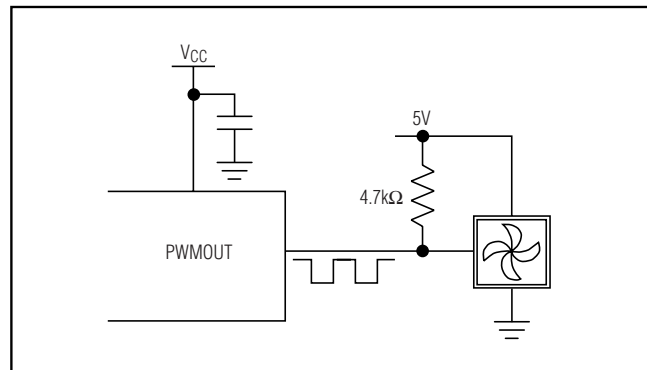

Figure 7. Controlling a PWM Input Fan with the MAX6641's PWM Output (Typically, the 35kHz PWM Frequency is Used)
- 3) PWMOUT directly drives the logic-level PWM speed-control input on a fan that has this type of input. This approach requires fewer external components and combines the efficiency of 1) with the low noise of 2). An example of PWMOUT driving a fan with a speed-control input is shown in Figure 7. Bit D4 in register 02h should be set to 1 when this configuration is used.